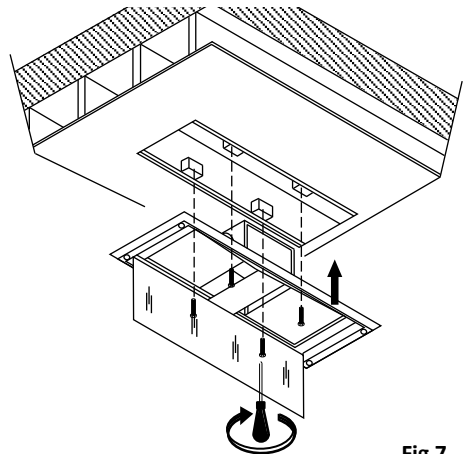

Fig 7
3. Fix the hood into the ceiling (Fig 7).